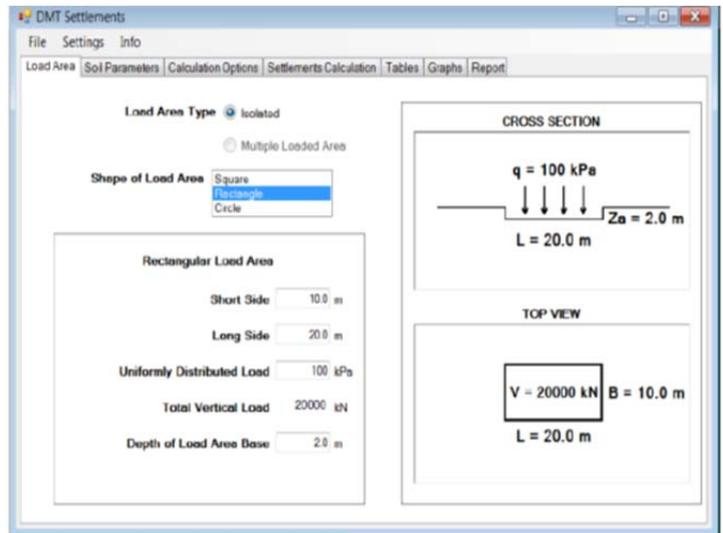

Fig. 3. Assign Load and Area (“DMT Settlements”)
1. **Loaded Area:** defines the load in terms of weight and geometry. Currently only one isolated load area may be set (Fig. 3), in future versions of this software also a multiple loaded area will be available.